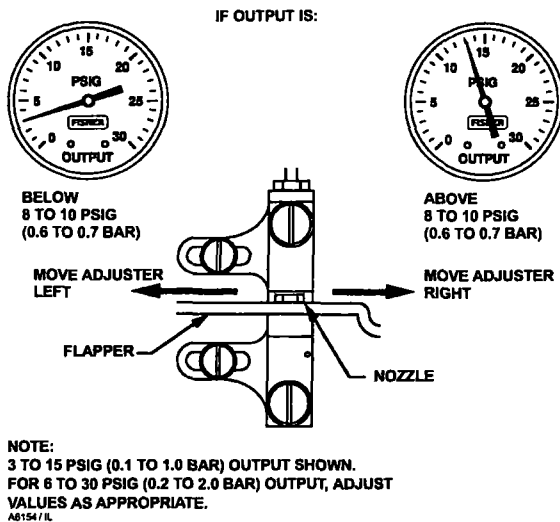

Figure 6. Direct-Acting Controller Span Adjustment—Proportional-Only Controllers
9. If the output is not between 8 and 10 psig, adjust the controller span by loosening one of the two adjusting screws (key 43) and move the calibration adjuster (key 41) a small distance as indicated in figure 6.